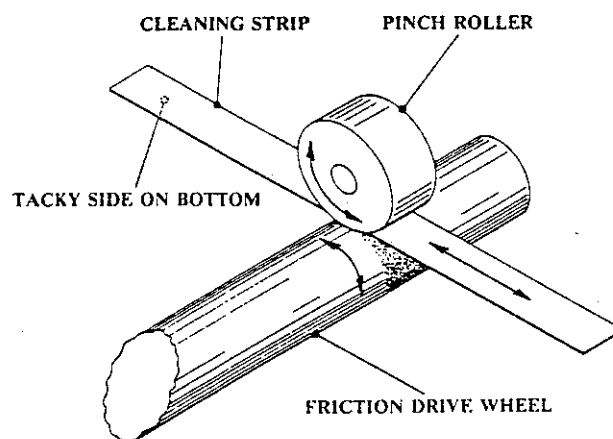

FIGURE 3-1. CLEANING FRICTION DRIVE WHEELS
5. Place the cleaning strip between the pinch roller and the drive drum, with the tacky side of the cleaning strip toward the drive drum as shown in Figure 3-1.